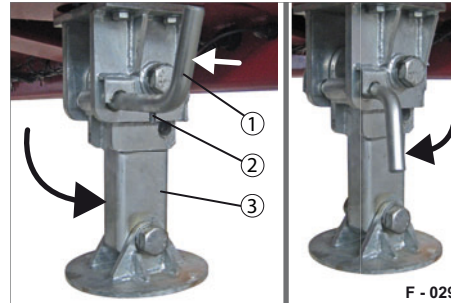

Fig. 64 Folding support folded down
- ▶ Carefully remove the socket pin. Hold the support leg (Fig. 64/3) firmly while doing so.
- ▶ Stick the socket pin into the bore hole (see Fig. 64).
- ▶ Turn the socket pin (Fig. 64/1) down so that it is secured with the pin (Fig. 64/2). The folding supports are folded down and secured.